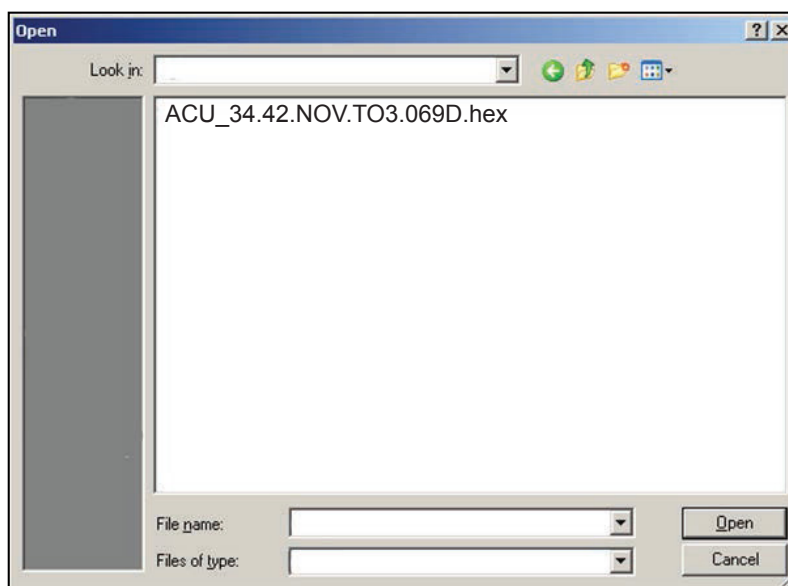

Figure 6 - Selection of File
- 1.12. In the browser, select the new ACU corresponding program update. This is the program previously saved in the laptop (see Figure 6).